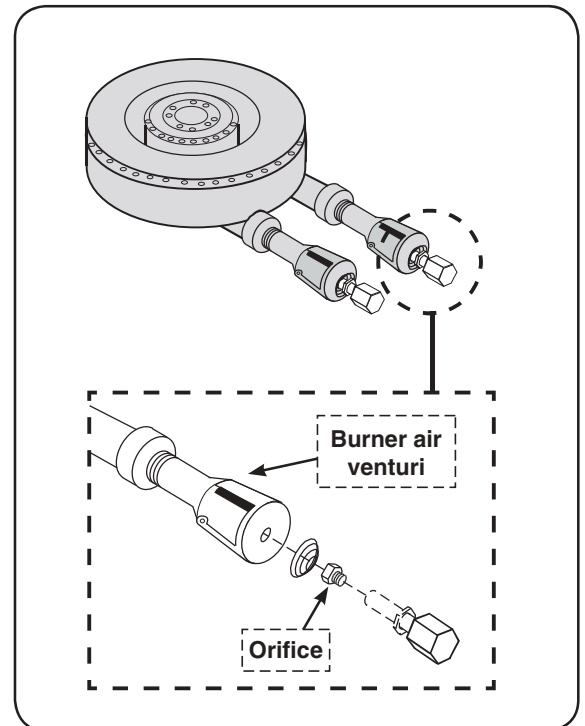

Fig. 24-1 Burner air shutter / orifice orientation
4. Install the air shutter spring and the air shutter over the orifice holder fitting, between the burner and the heat shield, in the order and position shown in Fig. 24-1.